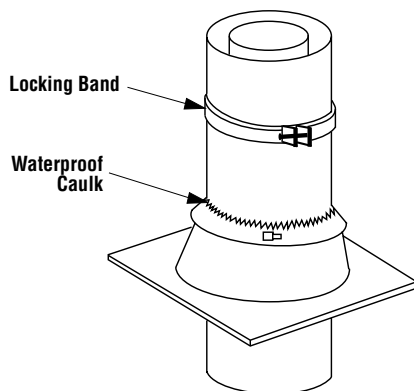

Figure 30
Step 8. The standard Security Chimneys FTF10 roof flashing assemblies include a storm collar. Slide the storm collar over outer chimney, rest on flashing spacers and align with top surface of flashing. Insert tab in slot, pull tight and bend tab back over slot. Seal storm collar to outer chimney with roof caulking or mastic around entire circumference of pipe. Also add extra roof caulking to the tab/slot area to seal completely against water penetration (Figure 30). Check all joints very carefully to ensure no water intrusion can take place.
Use the nut provided and TIGHTEN snugly. Do not overtighten as this might damage the chimney section (refer to Figure 30).